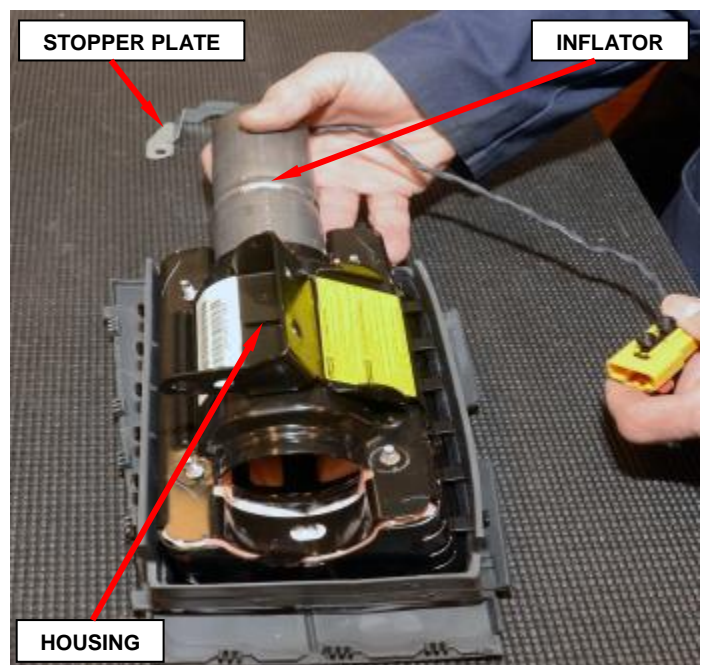

Figure 48 – Inflator Removal
f. Slide the inflator out of the housing (Figure 48).